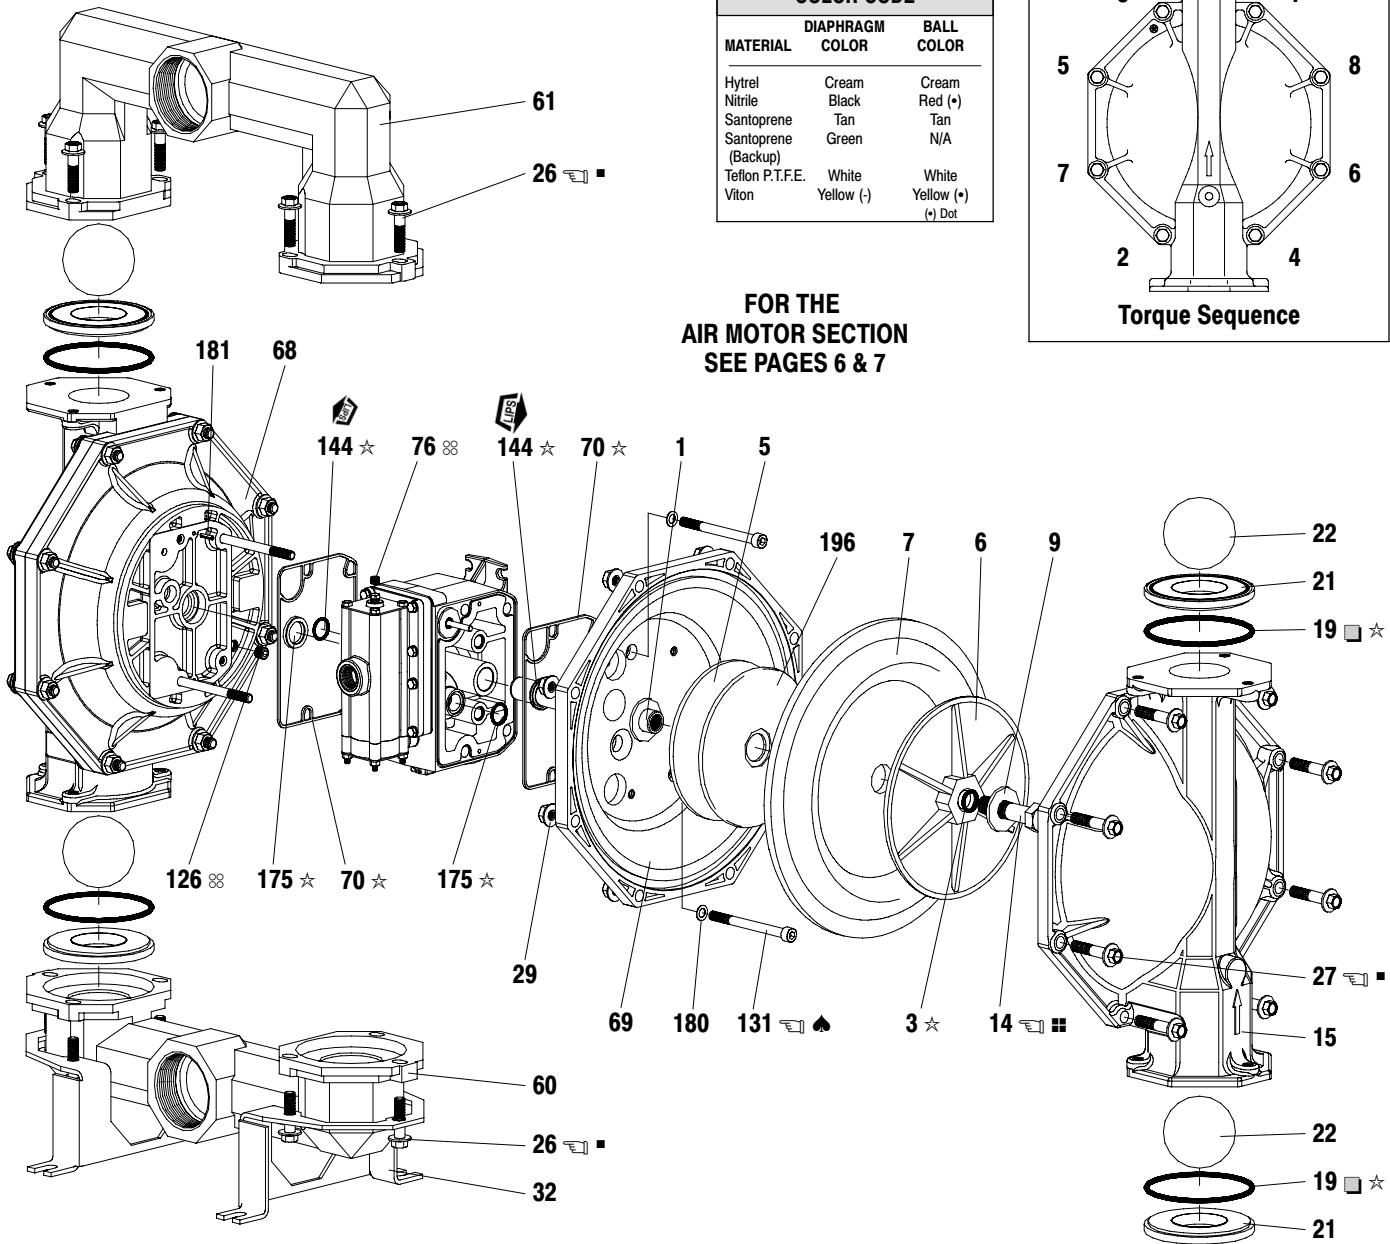

Figure 2
2. Remove (22) balls, (19) “O” rings (if applicable) and (21) seats.
3. Remove (15) fluid caps.
NOTE: Only Teflon diaphragm models use a primary (7) diaphragm and a backup (8) diaphragm. Refer to the auxiliary view in figure 2.
4. Remove the (14) screw, (6) diaphragm washer, (7) or (7 / 8) diaphragms, (5) backup washer and (196) cushion.